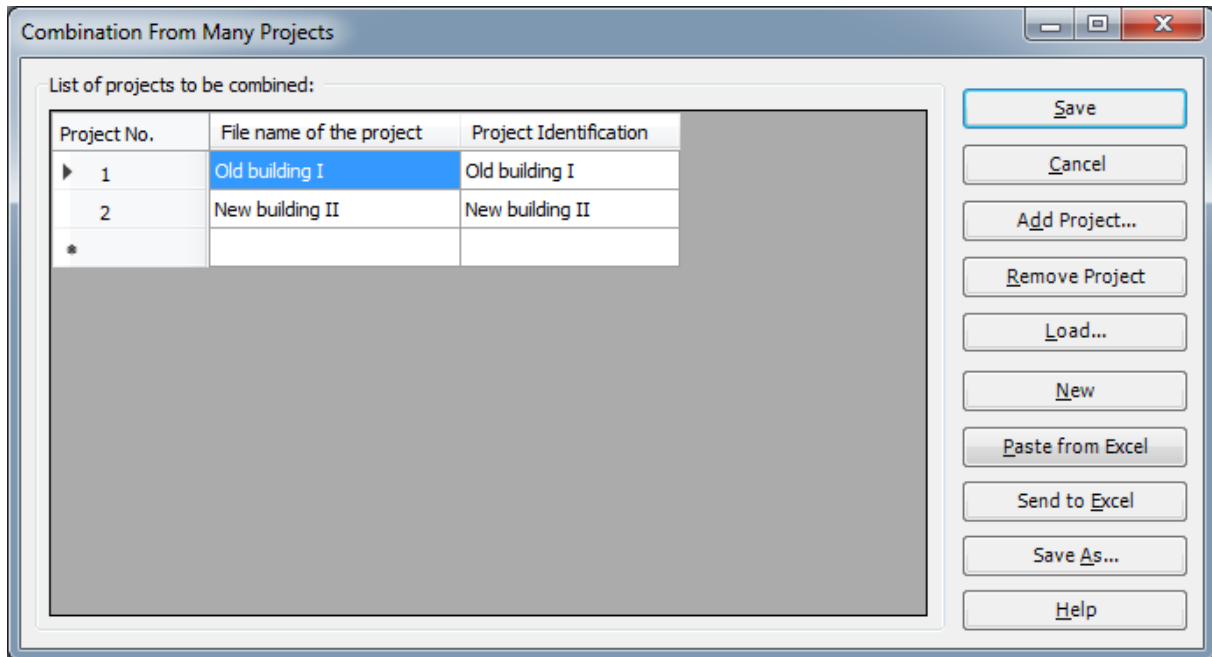

Figure 9.44 "Combination From Many Projects" list box
- Select and check "Combination From Many Projects" Figure 9.44 appears